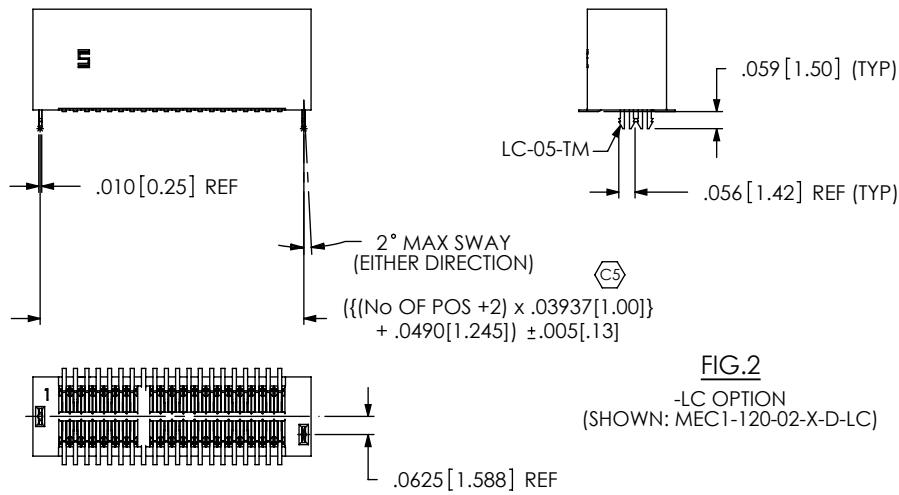

FIG. 2
-LC: LOCKING CLIP (SEE FIG. 2) (USE LC-05-TM)